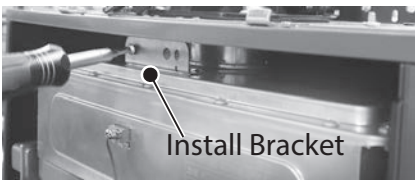

Figure 155 - HEX install bracket and screws
- 47 Locate the heat exchanger install bracket and two screws at the top of the water heater cabinet as shown in Figure 155.